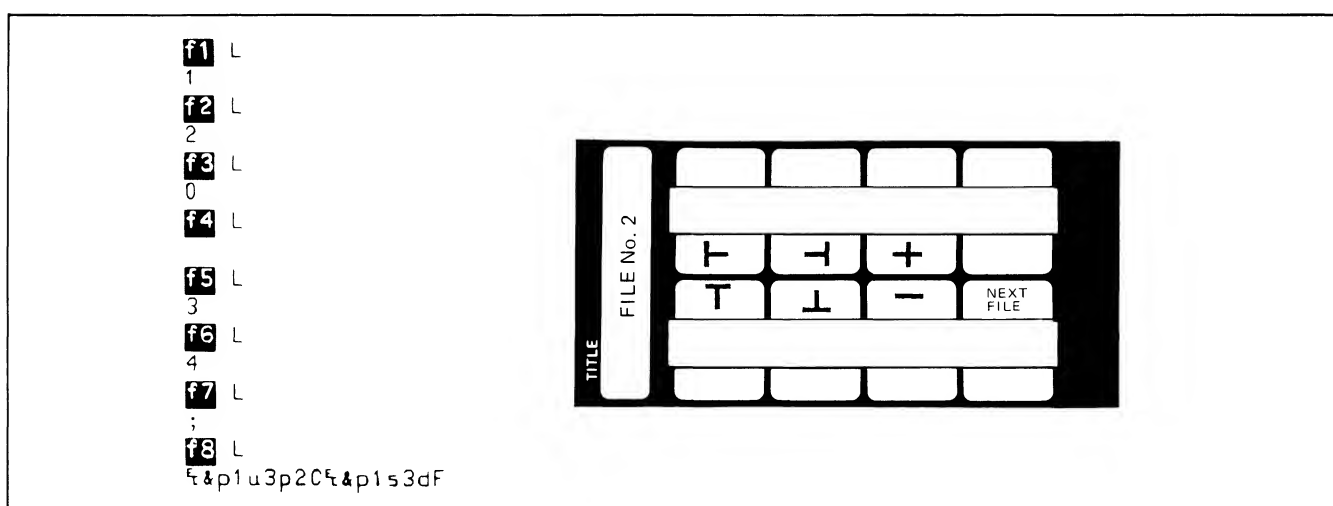

Figure A-2. Soft Key Programming and Soft Key Overlay for File 2
6. Program the keys for phase 2 as shown in figure A-2.